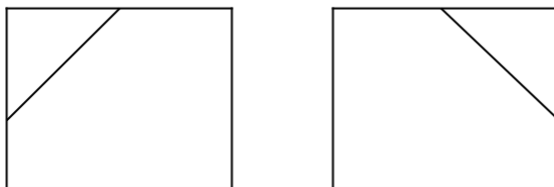

Fig2
6. Figure 2 shows two orthographic view of shaped object.